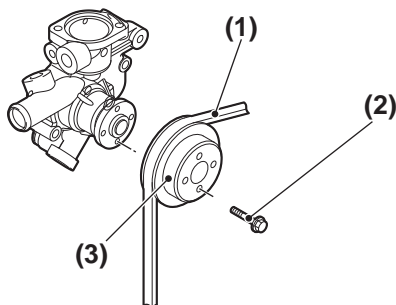

Figure 7-6
1. Loosen the cooling pump V-belt by loosening the alternator (**Figure 7-6, (1)**).
2. Remove the engine pulley guard (if equipped), engine cooling pulley bolts (**Figure 7-6, (2)**), V-pulley (**Figure 7-6, (3)**), and V-belt.